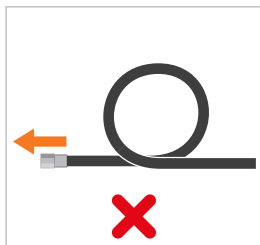

Figure 11
- ▶ Avoid the formation of loops in the hose and traction to looped hose segments (*Figure 11*).